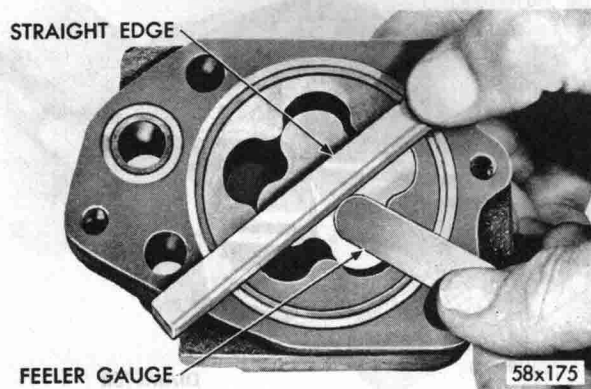
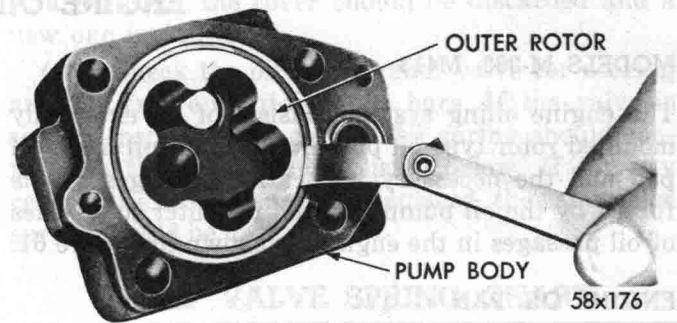

Fig. 66—Measuring the Clearance Over Rotors
Fig. 67—Measuring the Outer Rotor Clearance
(5) Slide the outer rotor and inner rotor into the pump body and place a straightedge across the face (between the bolt holes), as shown in Figure 66.
(6) If a feeler gauge of more than .004 inch can be inserted between the rotor and straightedge replace the rotor.
(7) Remove the inner rotor and shaft leaving the outer rotor in the pump cavity.
(8) Press the outer rotor body to one side with the fingers and measure the clearance between the outer rotor and the pump body (Fig. 67).
(9) If the measurement is more than .012 inch, replace the oil pump body.
(10) If the top clearance between the inner and